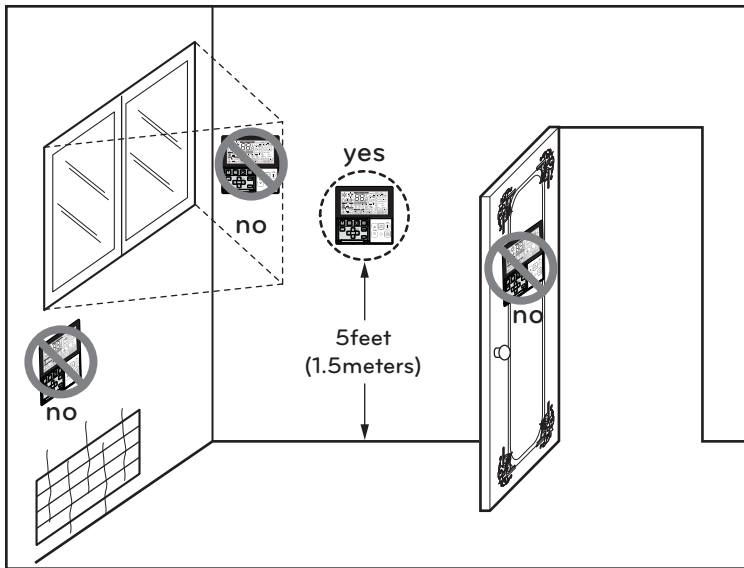

Fig.1 Typical locations for remote controller
- This remote controller is equipped with a seven segment LED. display. For proper display of the remote controller LED's, the remote controller should be installed properly as shown in Fig.1. (The standard height is 1.2~1.5 m from floor level.)
- For the units with capacity more than 48 kBTu/h, the installation piping is connectable in four directions.(refer to figure 1)